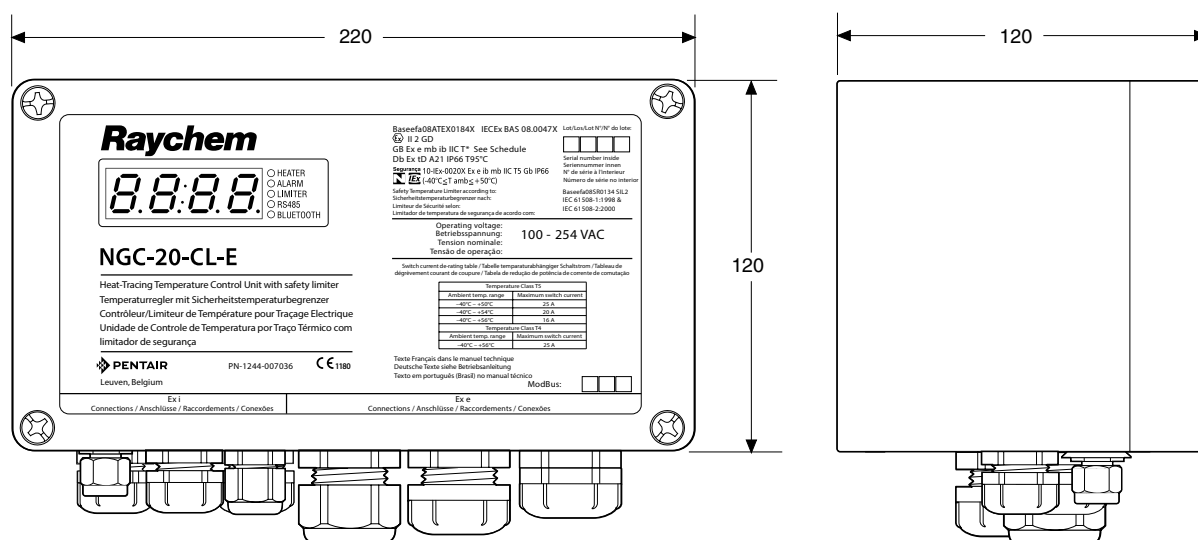

Figure 1: Dimensions NGC-20-C(L)-E
- Use two bands of glass tape to ensure its position. (Figure 1)